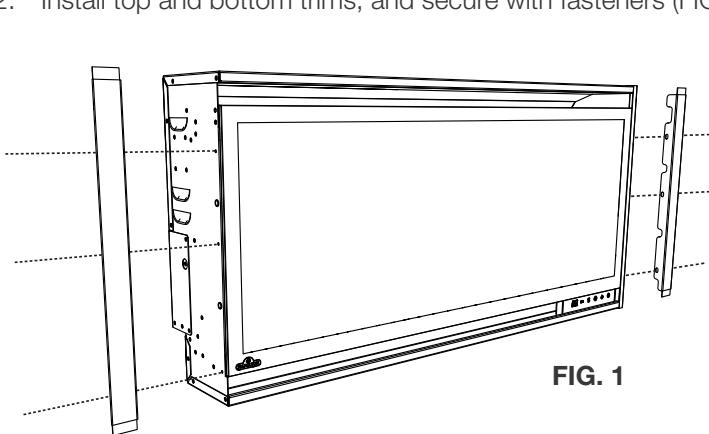

FIG. 1
3. Place appliance face down on a soft, non-abrasive surface. Remove the bracket from the back of the appliance by removing the screws (FIG. 1).
1. Install left and right panels (FIG. 1) by securing 4 fasteners (2 per panel) to bottom of appliance (FIG. 2).
3. Remove the plastic panel holders by removing the screws (FIG. 1 and 2).
1. Install left and right trims, and secure with fasteners (FIG. 1).